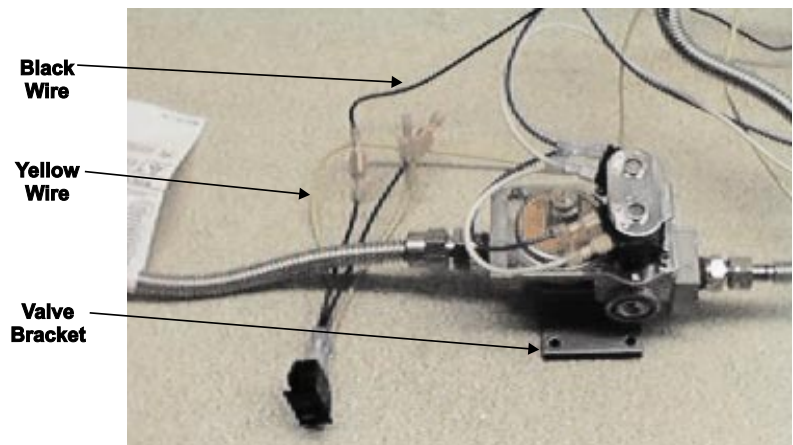

Figure 3
12. Connect the black wire from the junction box to the on/off switch, and the yellow wire from the module to the on/off switch. See Figure 3.